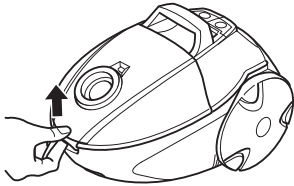

Fig. 16
1. Open the dust chamber cover by unlocking it and then flipping it up (Fig. 16).